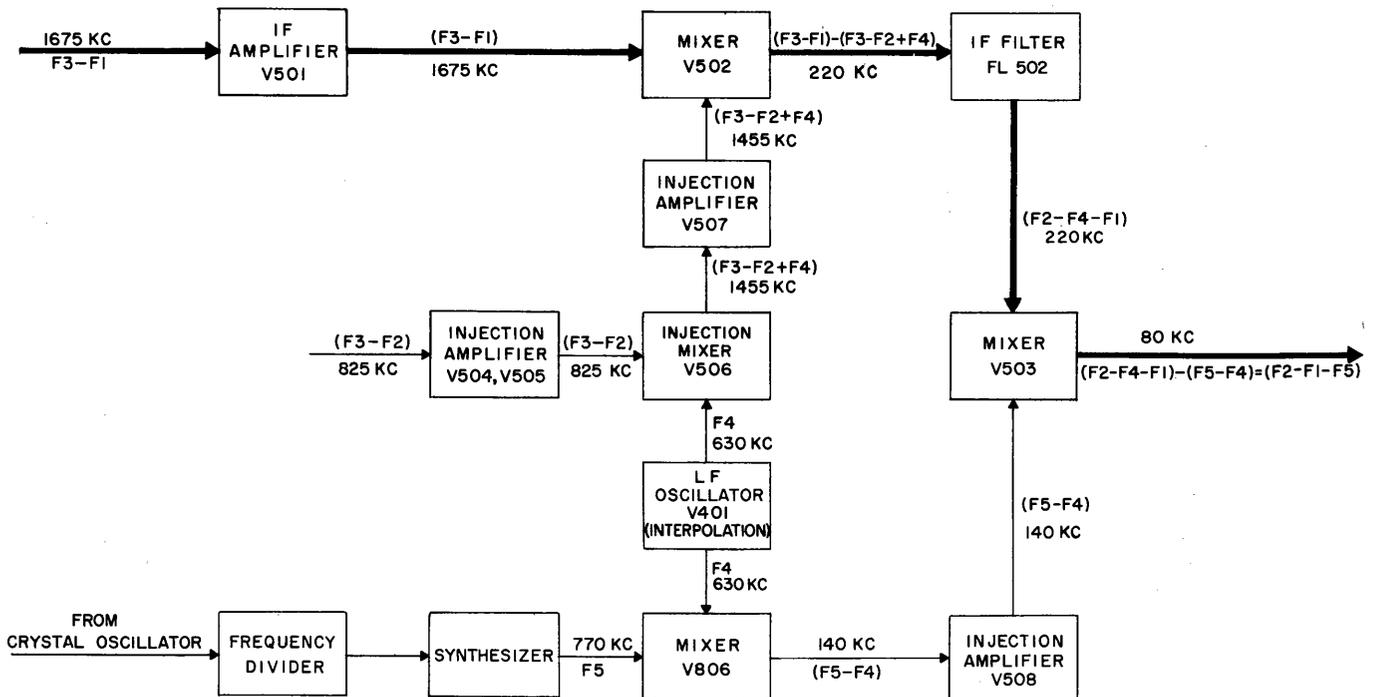

Figure 4-55. Interpolation Oscillator Drift Cancellation, Block Diagram
c. INTERPOLATION OSCILLATOR. (See figure 4-55.)—The drift-canceling loop for the interpolation oscillator parallels that of the HF oscillator except that interpolation oscillator signal F4 is mixed with an incoming signal, F3 minus F2. The incoming and oscillator signals add in mixer stage V506. The sum frequency signal goes to mixer stage V502 via injection amplifier V507 and mixes with incoming signal F3 minus F1 to produce the second conversion signal. The latter is fed to mixer stage V503 via IF filter FL502 for a third conversion.
Figure 4-55 shows the frequency transfers involved in the various stages of the loop. Because of the loop, of which the interpolation oscillator is a part, any variation in oscillator output frequency from any cause is relayed to both legs of the loop. Since each leg receives the same frequency variation, the result of mixing the signals of each leg in the same mixer stage (V503) is an output signal free of frequency component F4. For example, if the incoming signal frequency to mixer V506 is 825 kc and the interpolation oscillator signal frequency is 630 kc, the two signals total 1455 kc. This signal combines with the 1675 kc signal from V501 to provide a 220 kc signal at the output of mixer V502, then to be applied to mixer V503.